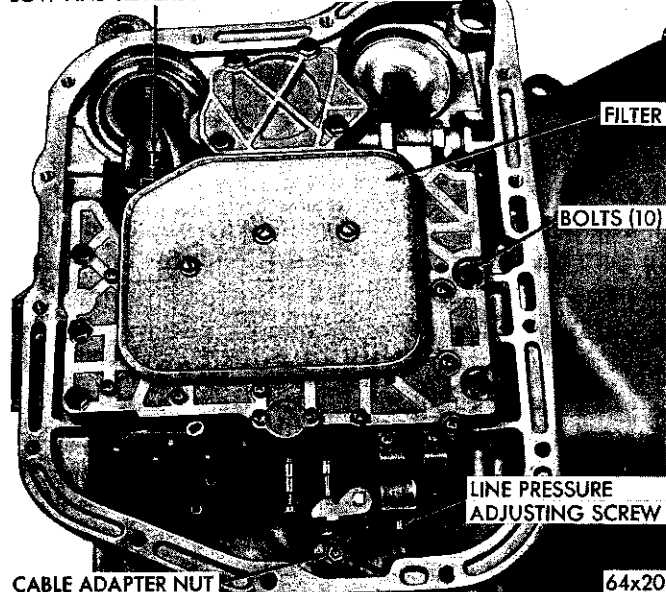

Fig. 22—Bottom View of Transmission
(1) Raise the vehicle, drain the transmission fluid and remove the oil pan.
(2) Loosen the adjusting screw lock nut and back off the nut approximately five turns (Fig. 22). Inspect the adjusting screw for free turning in the lever.
(3) Using wrench, Tool C-3380 with adapter C-3705, tighten the band adjusting screw to 47 to 50 inch-pounds torque. If adapter C-3705 is not used, tighten the adjusting screw to 72 inch-pounds which is the true torque.
(4) Back off the adjusting screw 3 turns. Hold the adjusting screw in this position and tighten the lock nut to 35 foot-pounds torque.
(5) Reinstall the oil pan using a new gasket. Tighten the oil pan bolts to 150 inch-pounds torque.
(6) Fill the transmission with Automatic Transmission Fluid Type "A", Suffix "A". Refer to Paragraph 4.